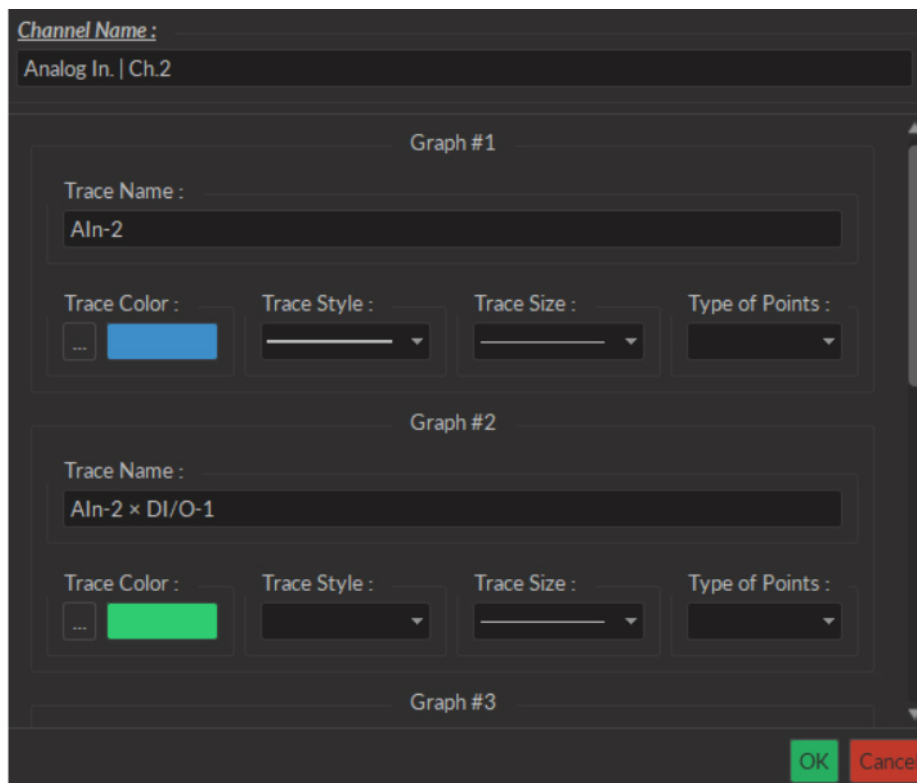

Figure 3.22: Graphs Window
- The **Channel Name** (Fig. 3.22) is indicated in the upper left.
- The **Trace # X** box (Fig. 3.22) (where **X** is the number of the trace) show the visual options available for a single trace on the graph. A trace box appears for each trace on the graph.